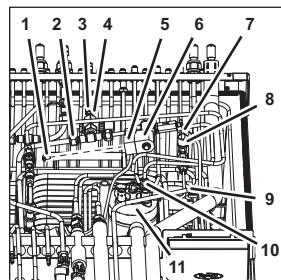

Figure 89
1. Disconnect the plug (Figure 89/5) of the solenoid valve (Figure 89/6) by removing the fastening bolt (Figure 89/1).
2. Disconnect the plugs (Figure 89/7) of the CO₂ pressure switch (Figure 89/8).
3. Disconnect the water input line on the coupling (Figure 89/3) from the T-fitting of the water inlet pressure reducing valve (Figure 89/4).
4. Disconnect the coupling (Figure 89/2) on pre-cooling coil 1 from the T-fitting of the water inlet pressure reducing valve (Figure 89/4).
5. Disconnect the coupling (Figure 89/10) of pre-cooling coil 1 from the carbonator tank (Figure 89/11).
6. Lift the connecting line (Figure 89/9) of pre-cooling coil 1 out of the unit.
41. Position the connecting line (Figure 89/9) of pre-cooling coil 1 within the unit.
42. Attach the coupling (Figure 89/10) of pre-cooling coil 1 to the carbonator tank (Figure 89/11).
43. Attach the coupling (Figure 89/2) on pre-cooling coil 1 to the T-fitting of the water inlet pressure reducing valve (Figure 89/4).
44. Attach the water input line on the coupling (Figure 89/3) to the T-fitting of the water inlet pressure reducing valve (Figure 89/4).
45. Attach the plugs (Figure 89/7) of the CO₂ pressure switch (Figure 89/8).
46. Attach the plug (Figure 89/5) of the solenoid valve (Figure 89/6) by removing the fastening bolt (Figure 89/1).